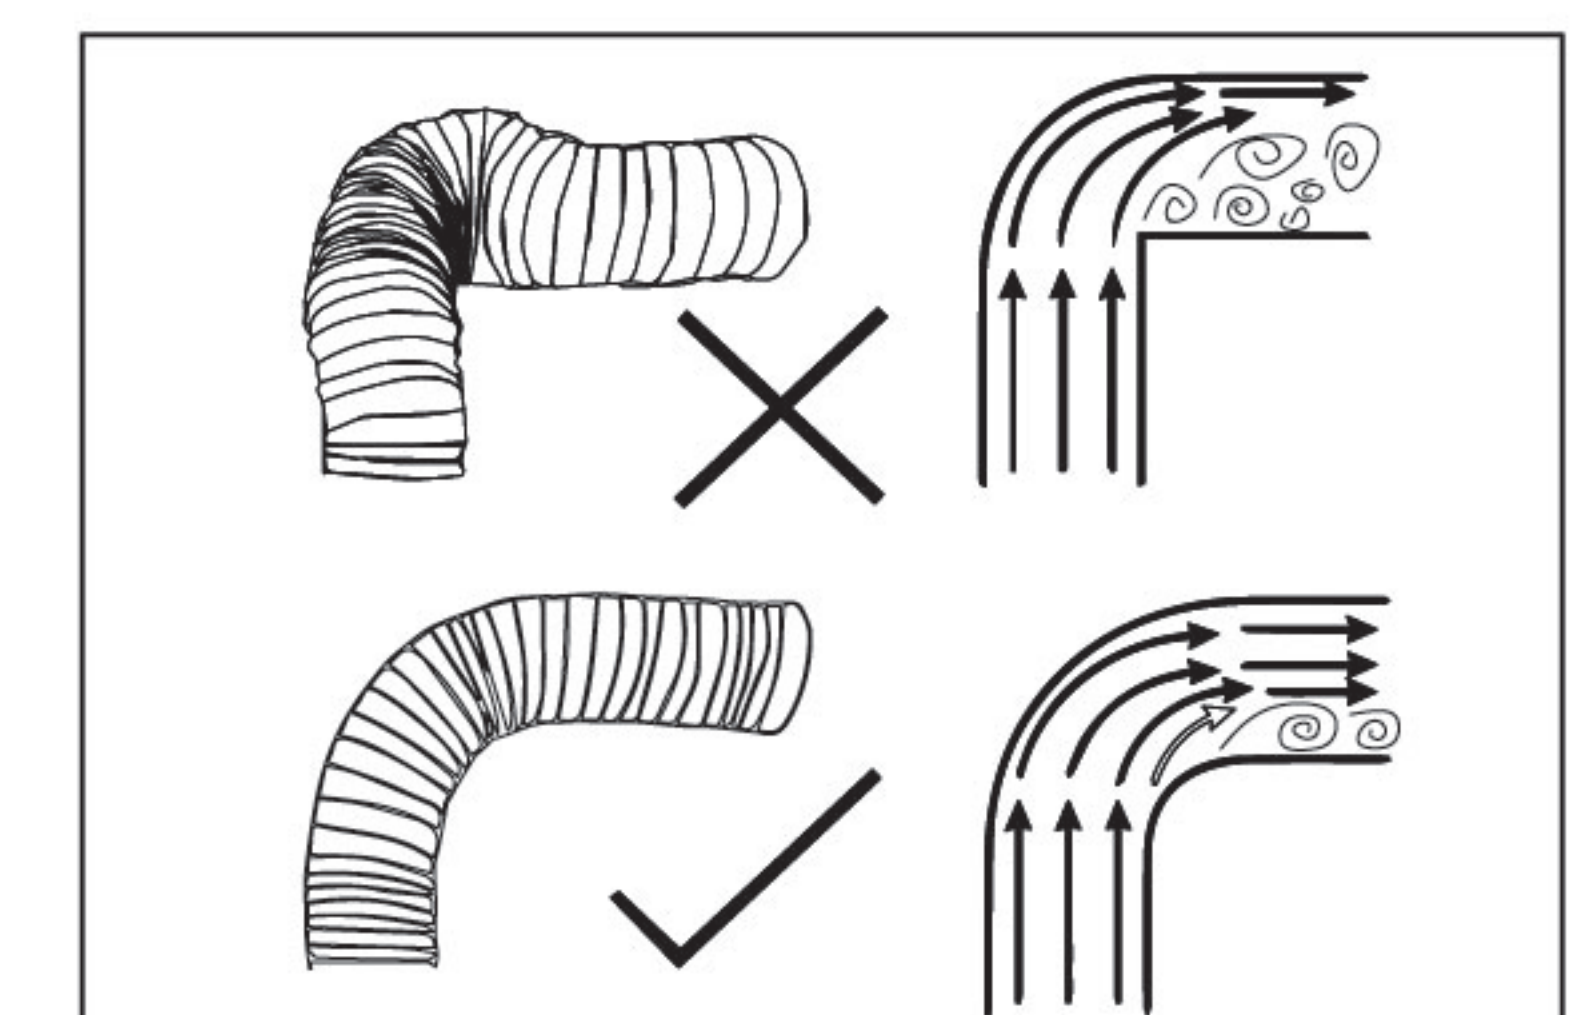

fig12
5. Arrange the exhaust duct: the aluminum foil exhaust duct and the reserved smoke tube or wall hole shall be sealed tightly to prevent smoke leakage, the smoke tube shall be free from extrusion, deformation and small-angle elbow, the number of elbows shall not exceed 2, and the smoke tube shall be straightened and fixed. (fig12)